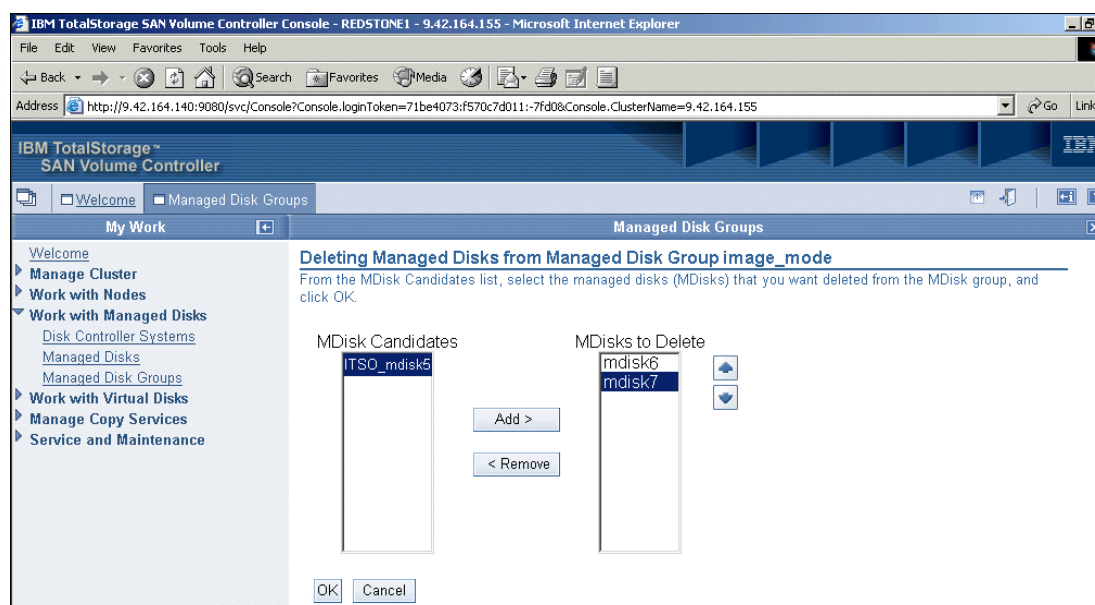

Figure 9-48 Removing mDisks from a MDG
2. From the Deleting Managed Disks from MDG *MDGname* panel (where *MDGname* is the MDG you selected in the previous step), select the desired mDisk from the mDisk Candidates list (one at a time). Click **Add** to move the mDisk to the mDisks to Delete list. After you select all the desired mDisks, click **OK**. See Figure 9-48.